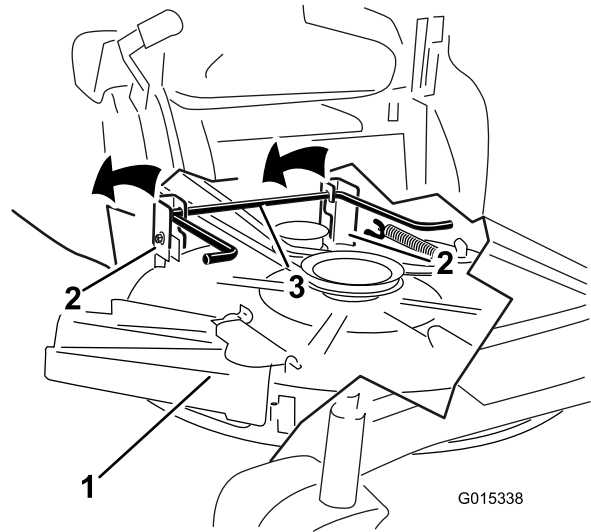

Figure 55
- Lift the mower deck and hanger brackets clear of the rear lift rod and lower the mower carefully to the ground (Figure 55).
5. Lift the rear of the mower deck and guide the hanger brackets over the rear lift rod (Figure 55).